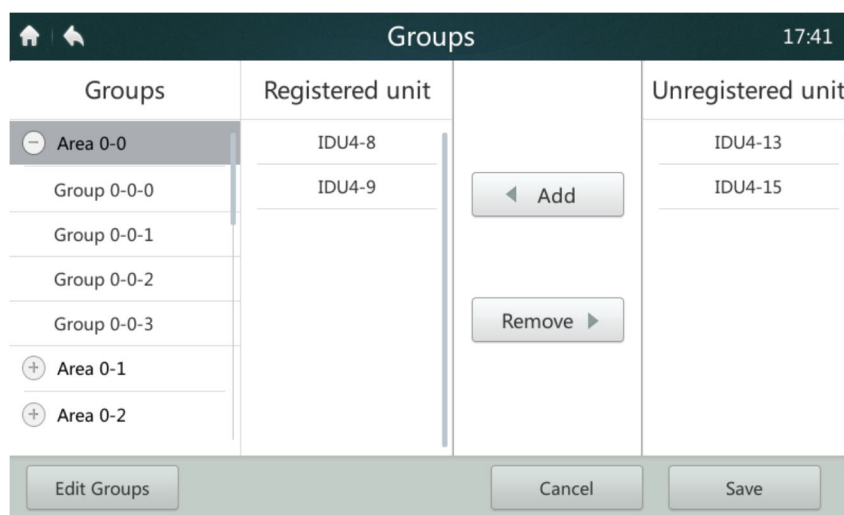

Figure 40 Homepage 2 of Group View page
1. The user needs first to create groups. After groups are created, the group view page is displayed, as shown in Figure 40.
2. Tap to select the group on the left for adding or deleting IDUs, as shown in Figure 40.
3. Tap to select a group on the right ungrouped device list, as shown in Figure 40. Tap the **"Add"** button to add it to the selected group. The device will be displayed in the grouped device list.